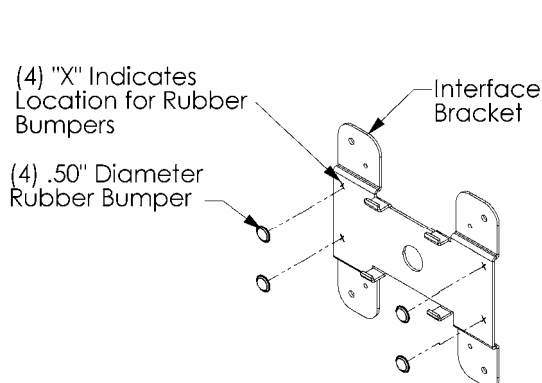

Figure 2
1. Attach the four (4) .50" Diameter Rubber Bumpers to the four (4) "X" location markings located on the Interface Bracket (see Figure. 2).